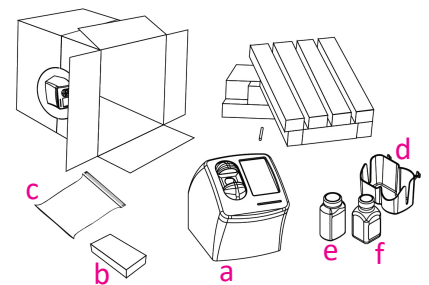

Figure 4
7. Remove the foam panels from the sides of the instrument (Figure 4).
Refer to Figure 4.